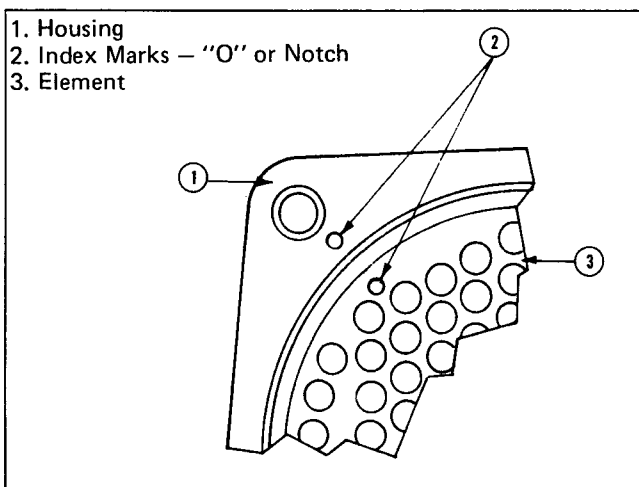

Fig. 7-1, (N10705). Aligning oil cooler index marks
2. Push element (3, Fig. 7-1) into housing (1), aligning index marks (2) on housing and element.